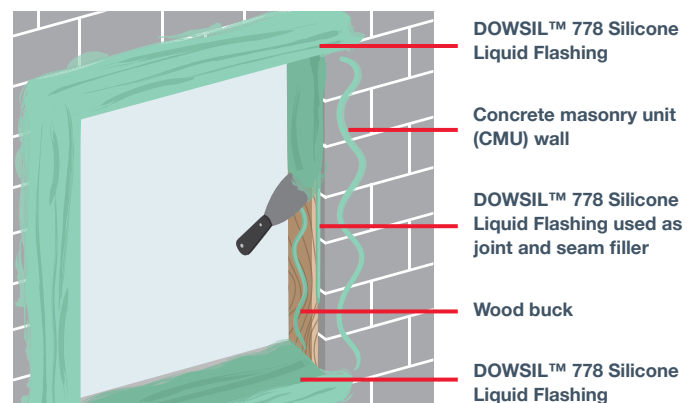
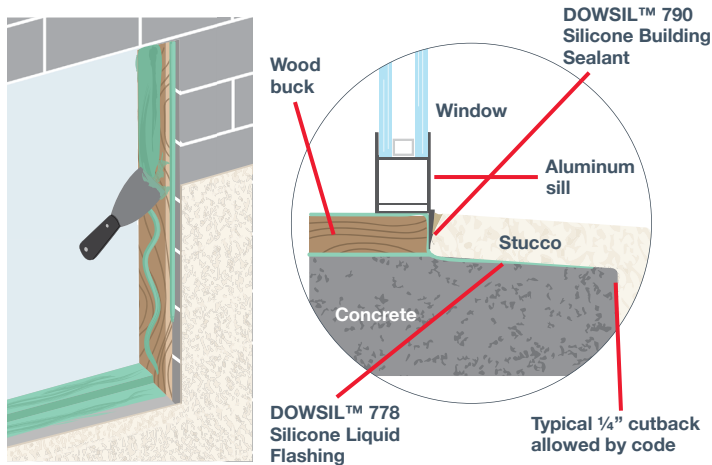

Figure 1: Typical installation applying DOWSIL™ 778 silicone liquid flashing with a spatula.
Figure 2: Alternative application detail to minimize adhesion issues.
3. If desired as part of the water control design, the liquid flashing can be applied along the face of the rough opening. Limit the dimension to no more than 4". See Figure 1. Alternatively, if there are concerns about applying stucco with sufficient wet-out pressure to tight or constrained dimensions, DOWSIL™ 778 Silicone Liquid Flashing can be cut back from the edge (typically 1¼").^{1,2} See Figure 2.
To address concerns with adhesion, industry standards allow cutting back the placement of liquid flashing. Figure 2 shows liquid flashing cut back from the edge (typically 1/4").